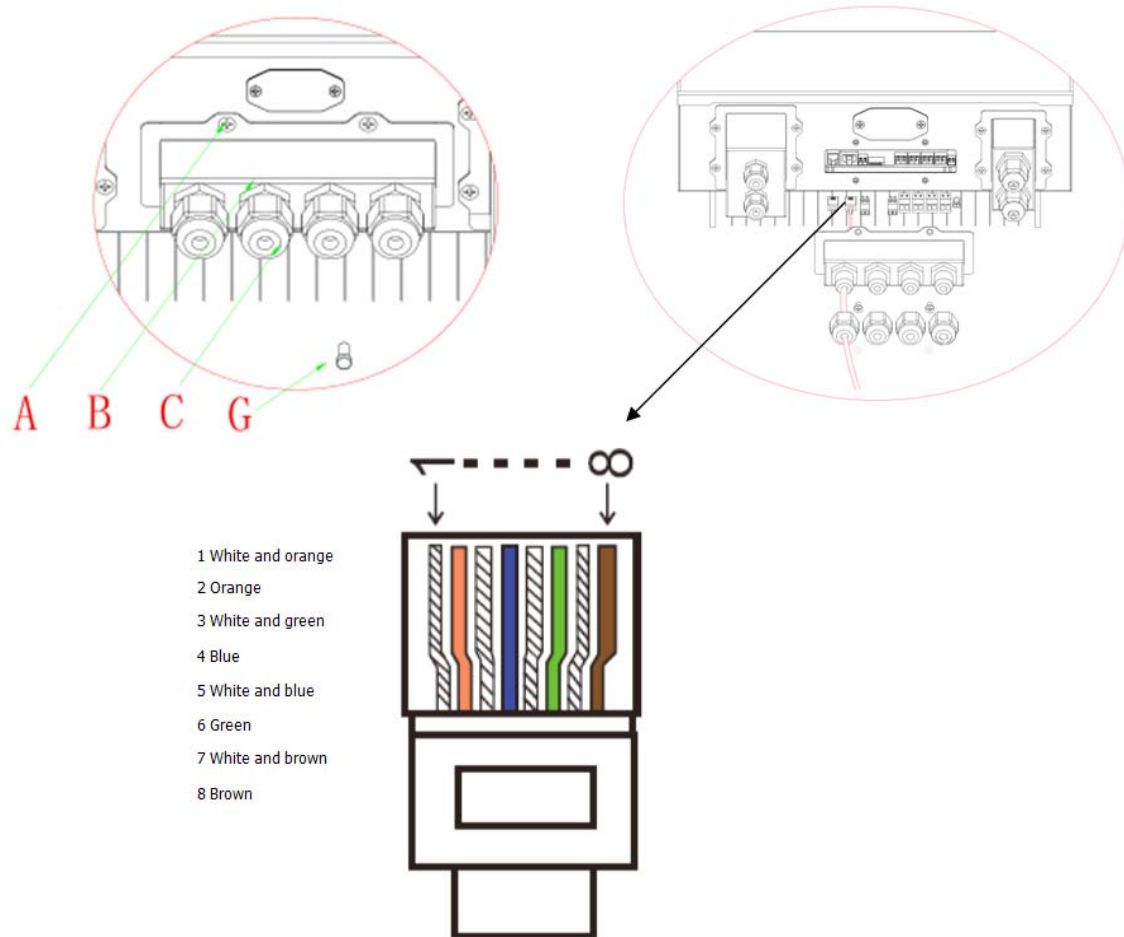

Fig. 11 Inverter logic interface connection
Step 1: Loosen 4 screws (A) using a screwdriver (fig. 11);
Step 2: Remove the waterproof cover (B), Loosen the cable gland (C), and then remove the stopper (G);
Step 1: Refer to Fig. 11 for correct position of CTa. Wrap the CT around L wire of incoming mains, make sure that the CT arrow direction is “home → grid”.